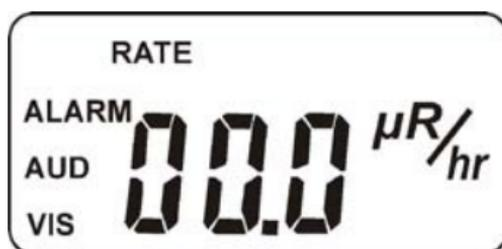

Figure 2 The Rate Display
- The Rate Mode display should appear, with the word **RATE** shown at the top left of the screen (Figure 2).